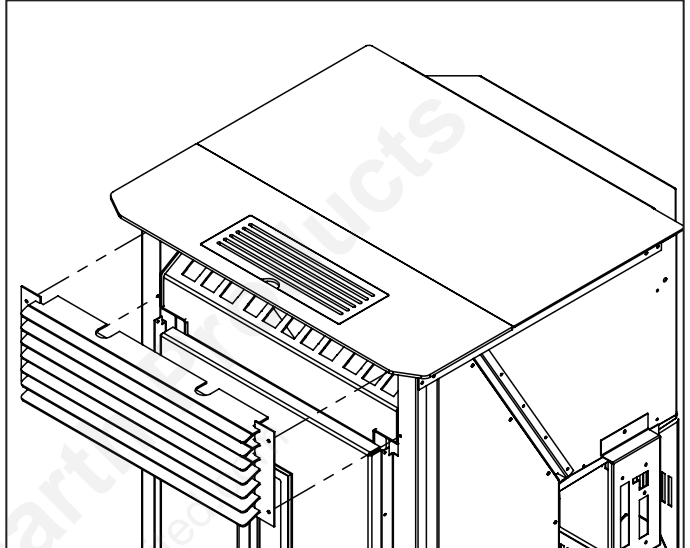

Figure 4: Original front grill removal.
4. Remove the four T-20 screws securing the Front Grill assembly, see figure 4.